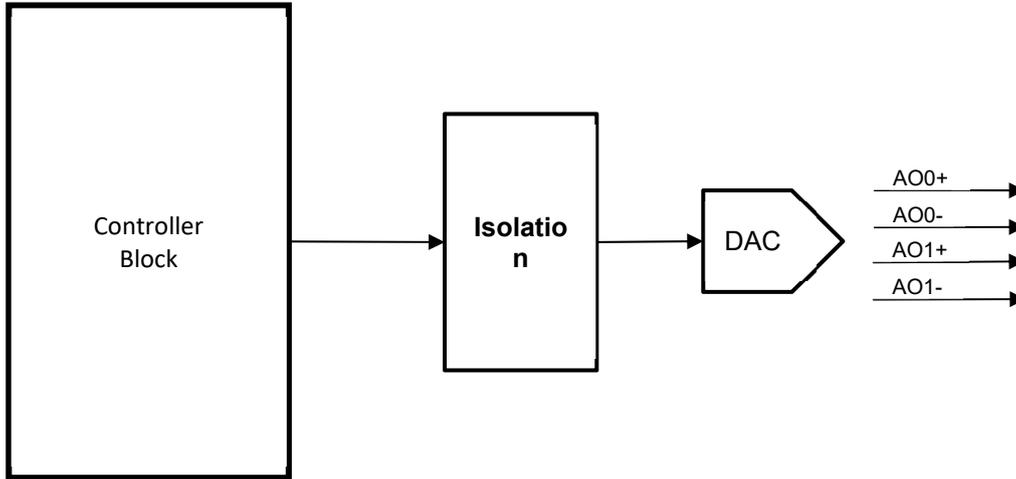

Figure 4.12 - Schematic Diagram of AO (Analog Output) Circuit
Figure 4.12 shows schematic diagram of Analog Output (AO) circuit inside the IO5202. The internal Controller Block generates a digital signal that is sent through an isolation circuit to the Digital-to-Analog Converter (DAC) circuit inside the IO5202. The analog signal is then sent out to one of the desired Analog output channel (AO0, AO1,...). Note that the signal has both positive and negative paths such as AO0+ and AO0-.